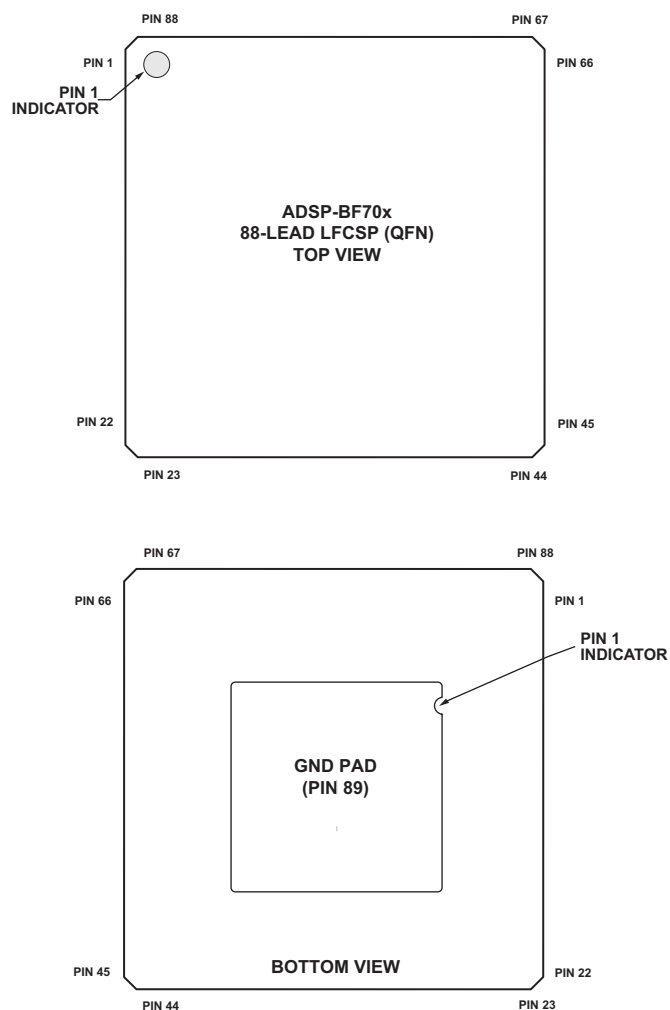

Figure 70. 12 mm × 12 mm 88-Lead LFCSP (QFN) Configuration
Figure 70 shows an overview of signal placement on the 12 mm × 12 mm 88-lead LFCSP (QFN).
*Pin no. 89 is the GND supply (see Figure 70) for the processor; this pad must connect to GND.